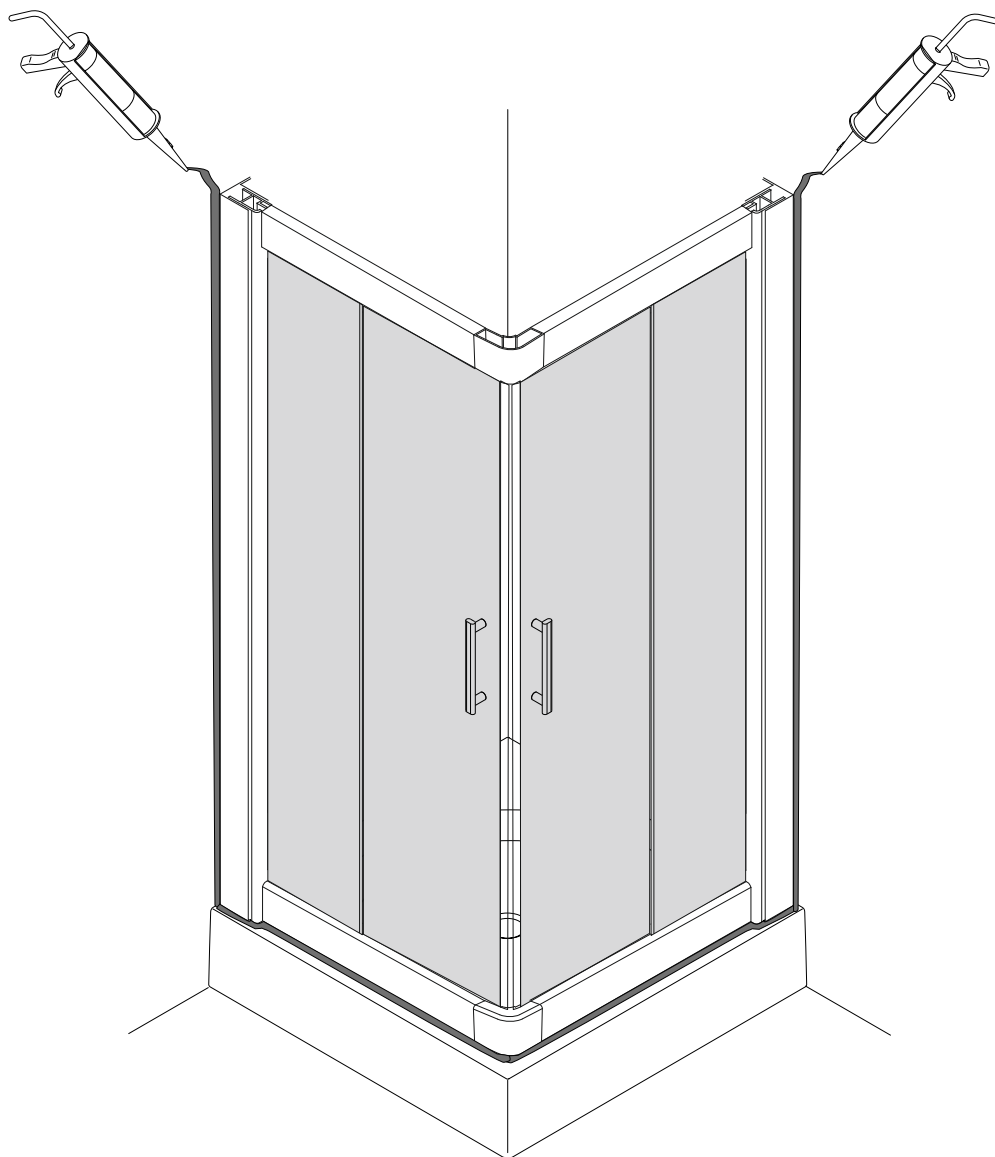

Fig. 14
12) Lay the glass cement between the wall and fixed door profile, bending rail with tray to complete the mounting. As Fig14.
12) Siliconare nella parte esternail box doccia. Vedi Fig. 14.